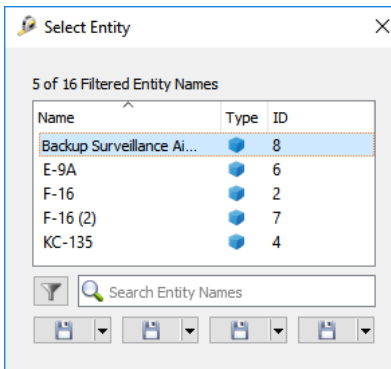

Figure 5.65: Select Entity Example
7. Close the **Entity Filters** dialog. The entity list on the **Select Entity** dialog is updated with a list of aircraft platforms, shown in Figure 5.65.